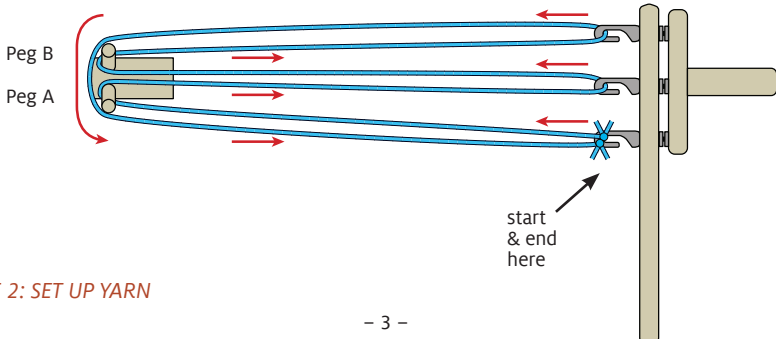

FIGURE 2: SET UP YARN
2. Set up the yarn: Tie your yarn to one hook of the Rope Machine, as shown in Figure 2. Loop the yarn around peg A of the separator and carry it back to the Rope Machine. Loop the yarn around the middle hook and carry it back to the separator. Loop the yarn around peg B and carry it back to the Rope Machine. Loop the yarn around the last hook and carry it back to the separator. Finally, loop the yarn around **both** pegs and carry it back to the first hook of the Rope Machine. Tie the yarn to this hook and cut it. (For a thicker rope, repeat this step as many times as you want.) You should see 2 “lines” of yarn coming from each hook.